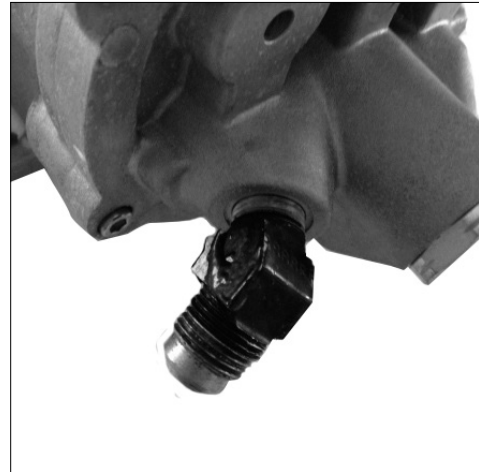

Figure 9: Return Fuel Fittings
Step 3: Remove existing return fuel fittings from bottom plate of Fuel Pro (Figure 9).